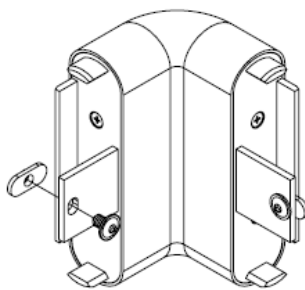
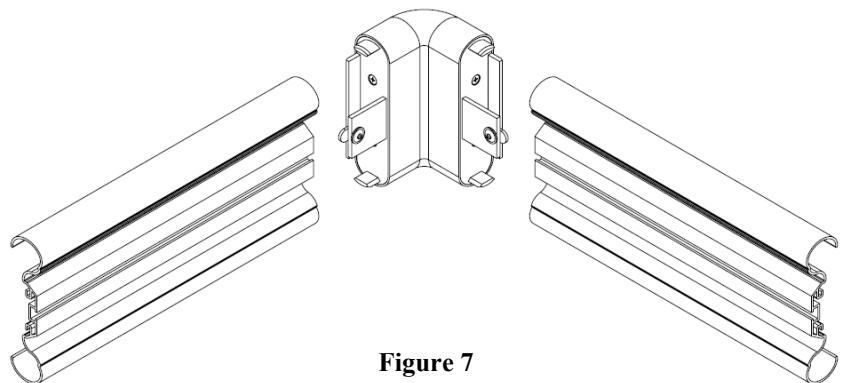
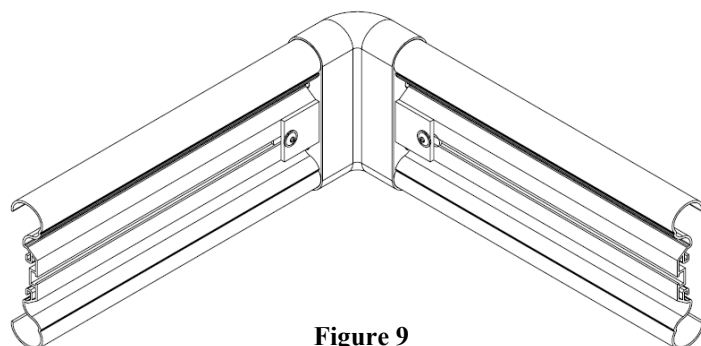

Figure 6
Figure 7
Figure 9
STEP 5. Select the end caps or outside corners for each section. Place the factory supplied screw through the hole in the tab on the endcap/corner, then loosely attach the factor supplied slot nut to the screw (see Figure 6). Place the retainer on it's side, then slide the end cap/corner into position with the tab to the back of the retainer and the slotted nut in the center channel of the retainer (see Figures 7 & 8). Once the end cap/corner is properly seated in the channel and flush with the end of the retainer, tighten the screw to hold the end cap/corner in place (see Figure 9).